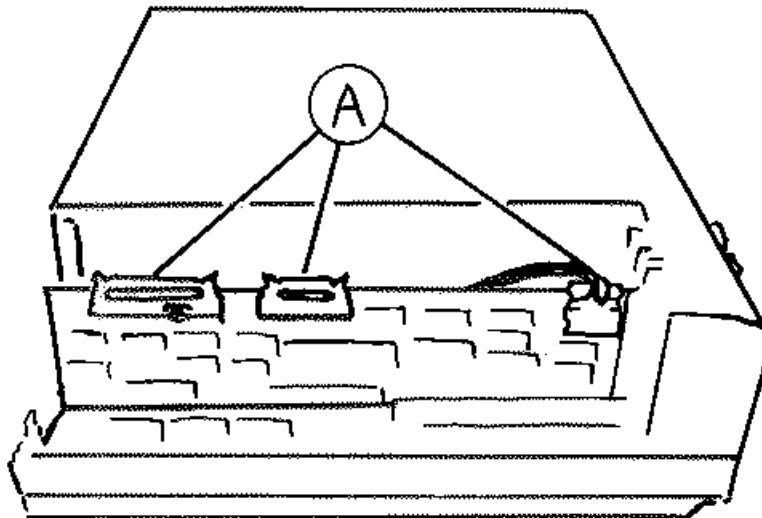

FIGURE 4-3. APX-T BOARD REMOVAL/REPLACEMENT
2. Remove cables (A), Figure 4-3, from the APX-T board.
1. Install the APX-T board (Figure 4-3) in any option slot.
2. Install connectors (A) to the APX-T board.